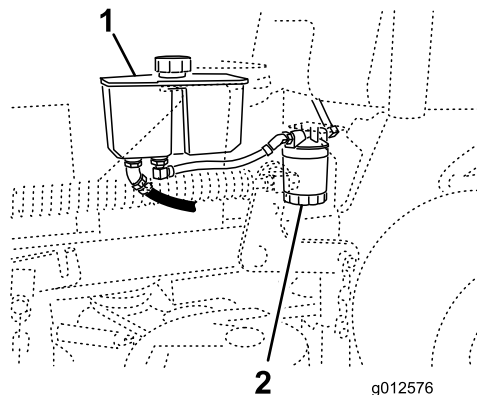

Figure 73
3. Locate the filter and place drain pan under filter (Figure 73).